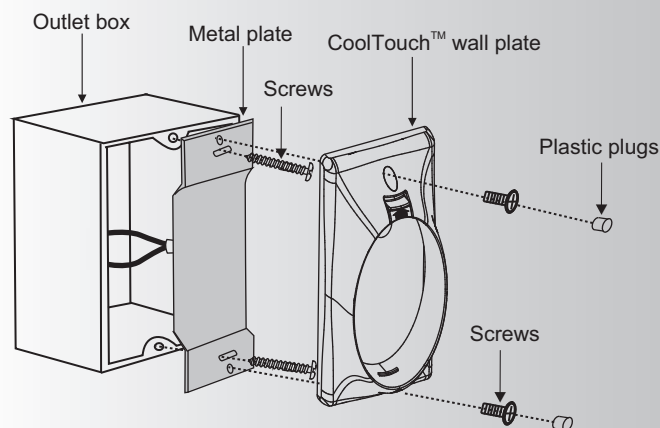

Fig. 26
Step 2. Install the metal plate and CoolTouch™ wall plate to the existing wall outlet box with 4 screws provided. Then place the two plastic plugs into the wall plate. (Fig. 26)